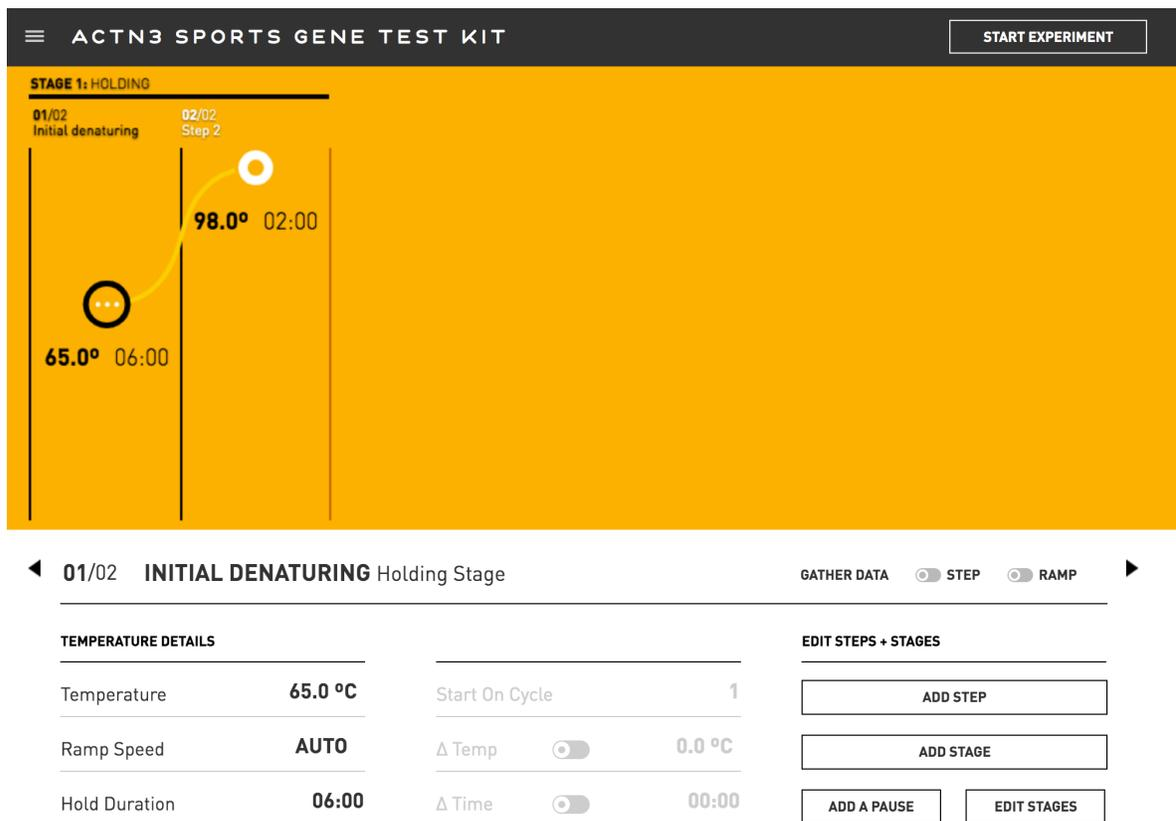

Figure 1. Open qPCR protocol for preparation of crude cell extract.
- 2. Preparation of Crude Cell Extract:** Set the protocol in the Open qPCR instrument as shown in Figure 1 below. From the default protocol, delete all steps in Stage 2, add another step to Stage 1, and adjust the temperatures and hold times accordingly. Mix your prepared sample from step one by pipetting up and down ten times, then transfer 100 μ L of the solution to a new, sterile 0.1 mL PCR tube. Insert the PCR tube containing the sample in the Open qPCR instrument.